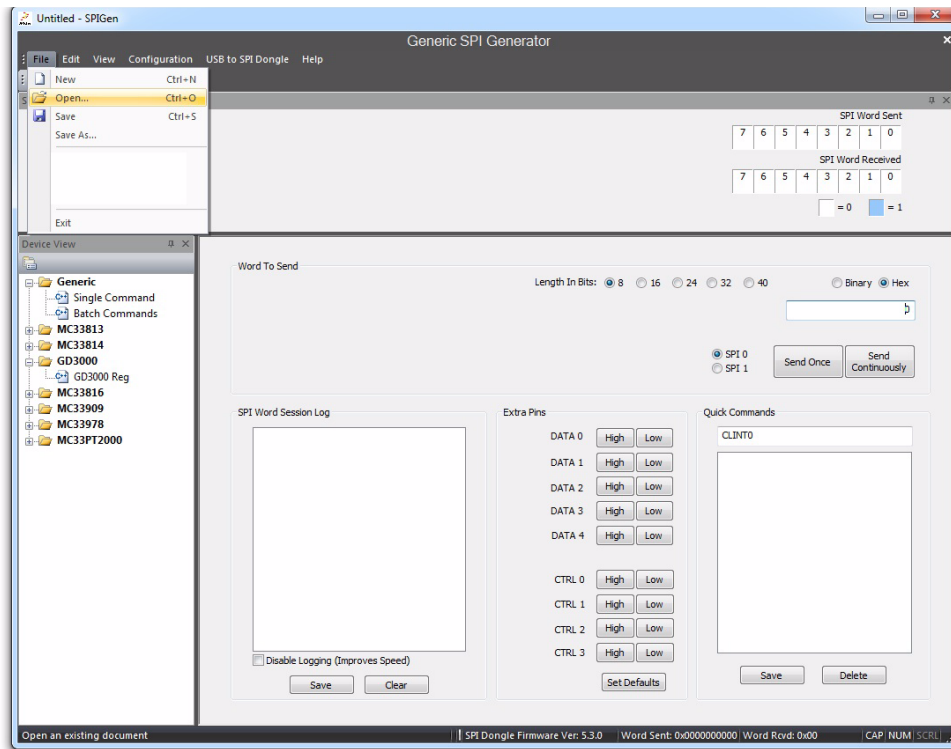

Figure 14. Generic SPIGen Tab
2. Run the SPIGen program, previously installed. SPIGen opens to the page shown in Figure 14.